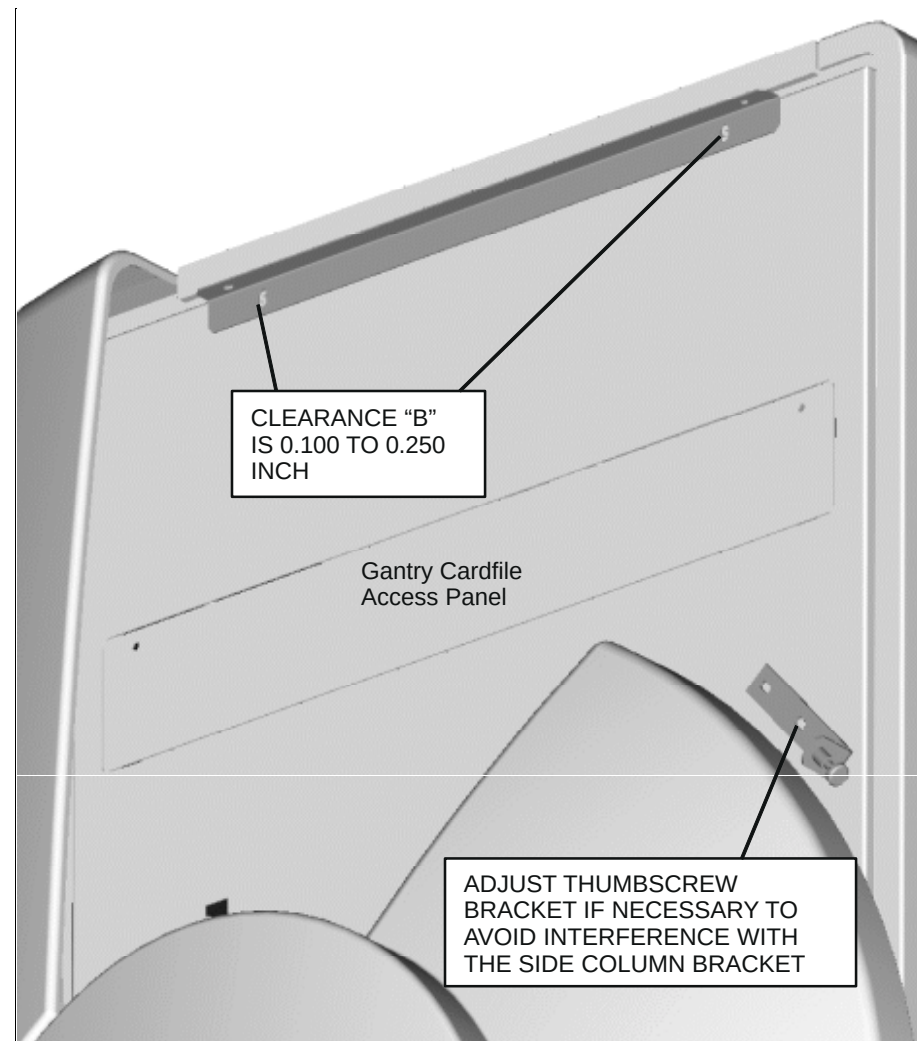

FIGURE 16 ADJUSTING CLEARANCE "A"
1. Remove the upper side cover. Loosen the two screws and remove the access cover. Refer to Figure 16.